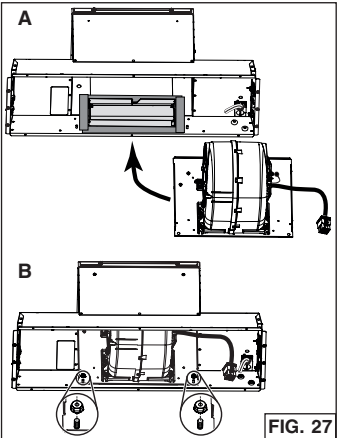

FIG. 27
5. Insert the blower with its support plate inside the unit, where the back plate was initially (**A**). Attach to the unit using 2 nuts previously removed in step 8 in PREPARE THE UNIT section (**B**) (FIG. 27).